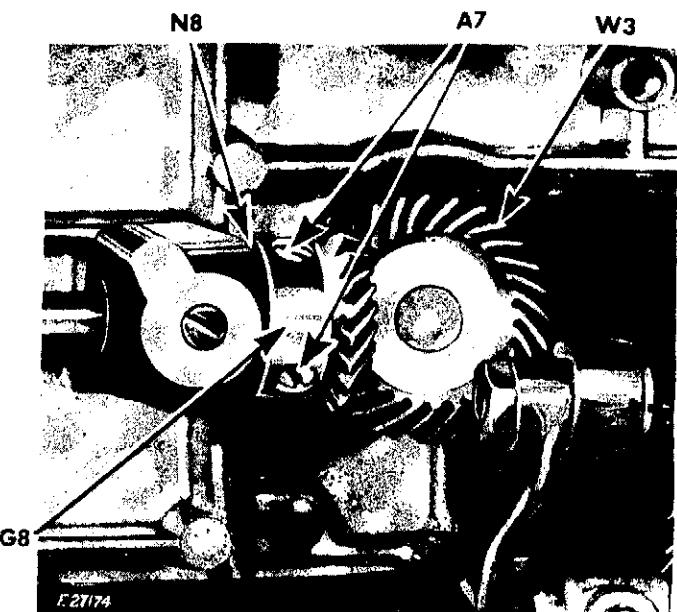

Fig. 298. Adjustment for Hook Timing
Loosen the two set screws A7, Fig. 298 in gear G8.
Securely tighten two set screws A7, Fig. 298 making certain that gears G8 and W3, Fig. 298 are **correctly meshed** without binding or back lash.
**NOTE:** Hub of gear G8 should not bear against face of bushing at N8, Fig. 298.